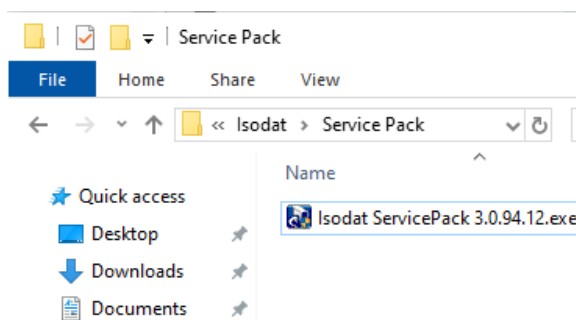

Figure 4-1. Isodat Service Pack
- a. Navigate to the folder containing the Service Pack, see Figure 4-1.